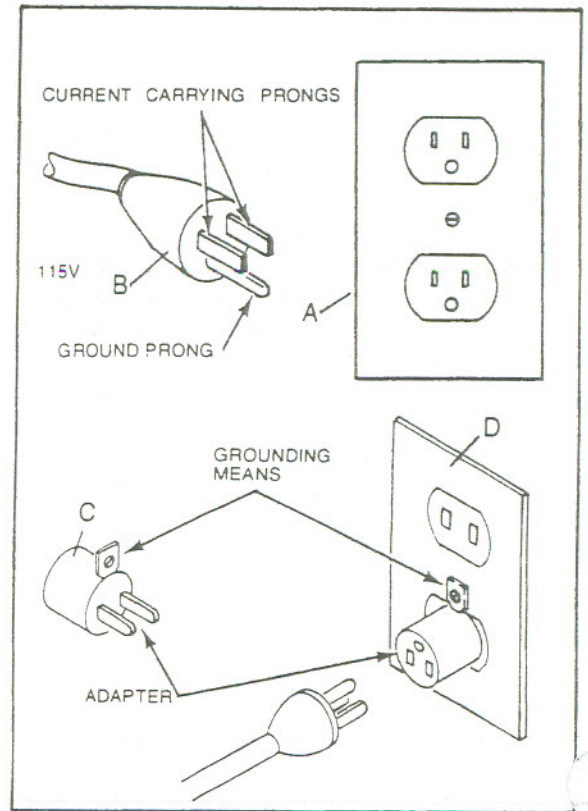
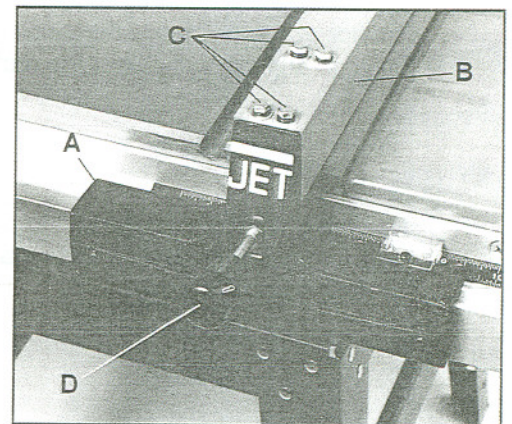

Fig. 26
Fig. 27
The JWTS-10JF table saw is rated at 115/230V and comes from the factory prewired 115V. The table saw comes with a plug designed for use on a circuit with an outlet that looks like (A) in Fig. 26.
1. Place fence body (A, Fig. 27) into fence (B, Fig. 26).
2. Install four bolts (C, Fig. 27) with flat washers and lock washers. Hand tighten.
3. Place fence assembly on guide rails, slide to nearest miter slot, and clamp handle (D, Fig. 27) to lock.
5. Tighten four bolts (C, Fig. 27).